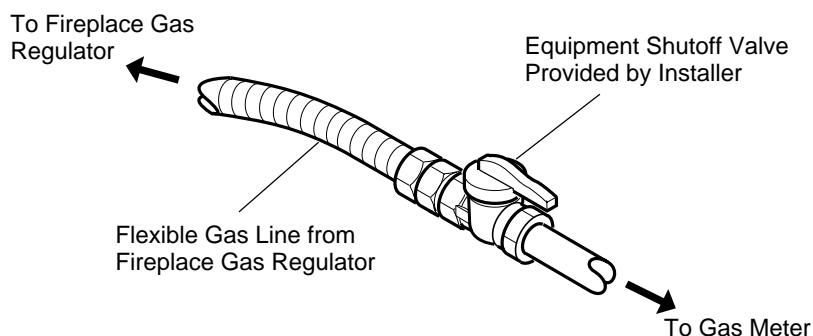

Figure 23 - Attaching Flexible Gas Lines Together
NOTICE: Most building codes do not permit concealed gas connections. A flexible gas line is provided to allow accessibility from the fireplace (see Figure 23). The flexible gas supply line connection to the equipment shutoff valve should be accessible.
2. Apply pipe joint sealant lightly to male threads of gas connector attached to flexible gas line (see Figure 23).
4. Check all joints from equipment shutoff valve to thermostat gas valve (see Figure 23, page 13). Apply noncorrosive leak detection fluid to gas joints. Bubbles forming show a leak.